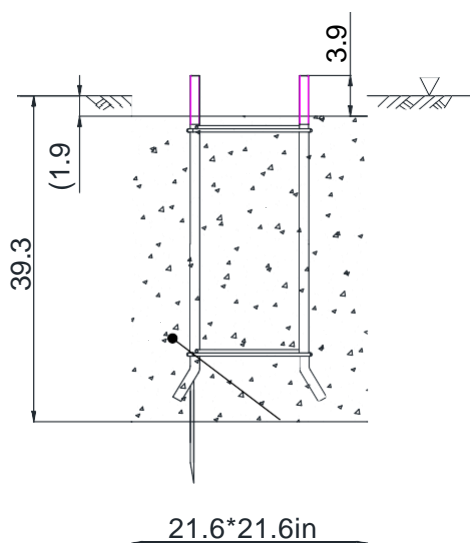

Figure 5
- ① Please dig a pit as: 19.6in(L)\*21.6in(W)\*39.3in(H)
- ② Measure underground cage's position and height before putting it into the pit before ensuring the concrete pouring height, the side of underground cage must line up with the road. See figure 5.
- ③ Pour concrete into the pit, reserve 100mm screw stud outside, see figure 5.
- ④ Tear off the transparent tape on underground cage, lock a nut on the four screw studs, and then put a horizontal plate.